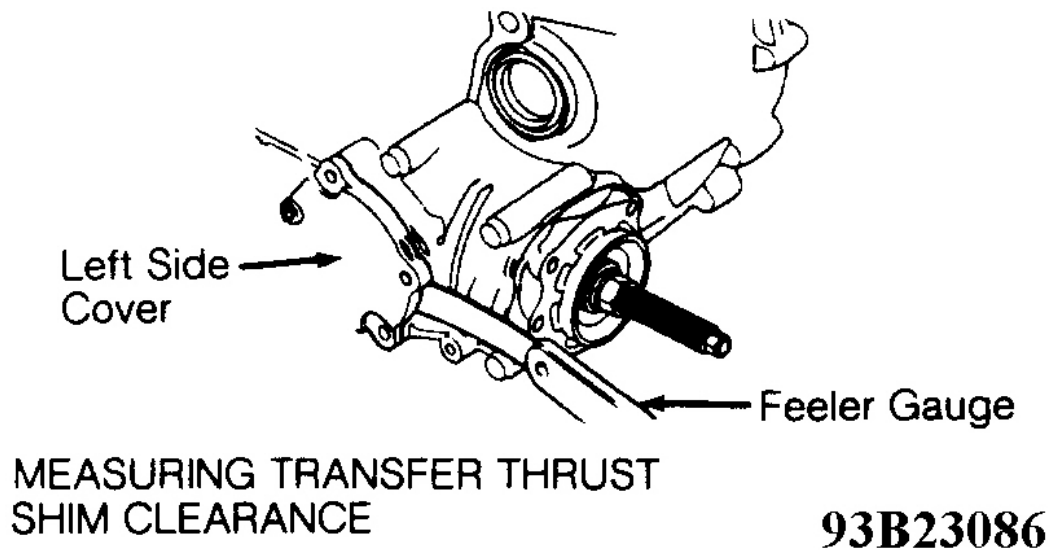

Fig. 49: Measuring Transfer Thrust Shim Clearances
39. Gear tooth contact pattern on driven gear should be centered on gear teeth. See **Fig. 49** . Different types of gear tooth contact patterns may exist.